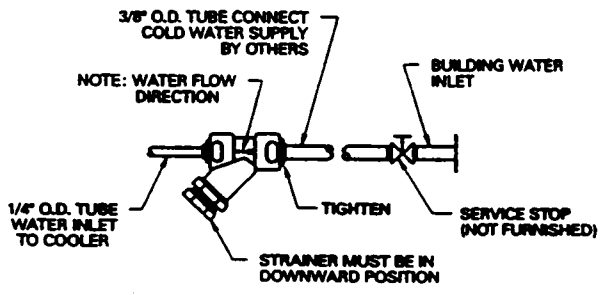
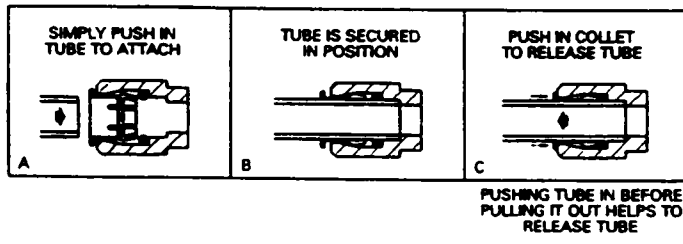

FIG. 2A
FIG. 3
- 3). Remove the two (2) screws and toe plate at bottom of the cooler. Then remove the two (2) screws and the front panel and set aside.
- 5). Connect cooler to building supply line with a shut-off valve and install a 3/8" O.D. water line between the valve and the cooler. Remove any burrs from outside of water line. Loosen nut on inlet side of Y-strainer (see Fig. 2A) and insert 3/8" O.D. water line to a positive stop - approx. 3/4". (see Fig. 3) Finger tighten nut to lock tubing in place. (see Fig. 2A)